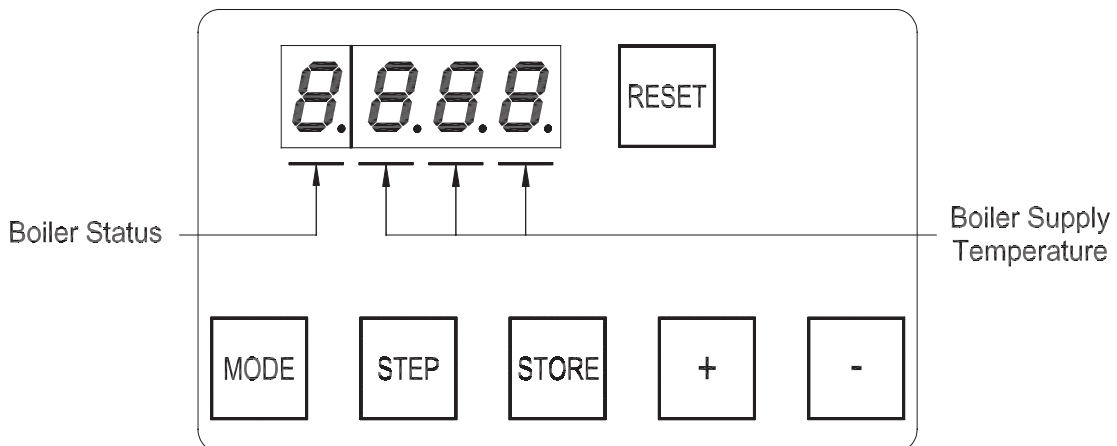

Figure 12.1: Normal Display In Standby Mode
Under normal conditions, the boiler is in standby mode and the display looks like that shown in Figure 12.1. The three digits to the right of the decimal point are the boiler’s supply temperature. The digit to the left of the decimal point is the boiler’s status code. A list of status codes, and their meanings, is shown in Table 12.3. Figure 12.2 is a map of the menu structure for the control panel. Push the mode key to move from one mode to the next. As you change modes, the mode you are entering is shown on the display:
- c) “*Stby*” for Standby Mode. Upon entering standby mode, “Stby” will briefly appear on the display and then the display will show the boiler’s status along with the supply temperature (Figure 12.1).